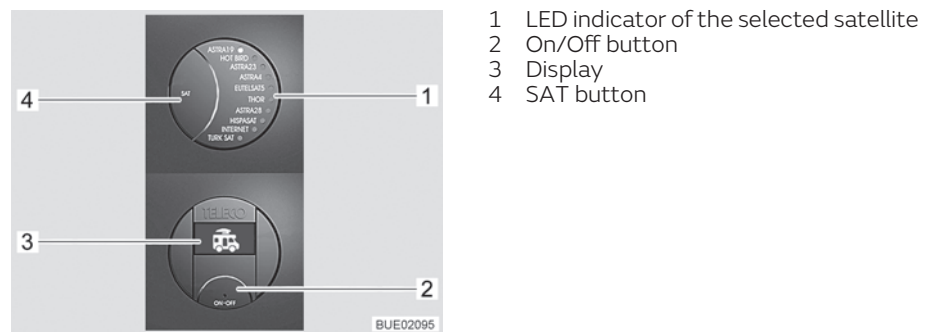

Fig. 26 Operating panel (TeleSat)
- Press the On/Off button (Fig. 26,2). The LED indicator of the selected satellite (Fig. 26,1) and the background lighting of the buttons are lit. The symbol of the vehicle with retracted antenna appears on the display (Fig. 26,3).
- Press the On/Off button (Fig. 26,2) again. The system has been switched on. If the antenna had been retracted, it will now extend to operating position. If the LED of the desired satellite (Fig. 26,1) is already flashing, wait a few seconds. The antenna automatically aligns with this satellite (the last satellite position is saved after switching off). When the unit has found the satellite, the LED (Fig. 26,1) is lit permanently and "SAT OK" is shown on the display (Fig. 26,3).
- Press the SAT button (Fig. 26,4) repeatedly until the LED (Fig. 26,1) indicates the desired satellite. The antenna automatically aligns with this satellite.
- When the unit has found the satellite, the LED (Fig. 26,1) is lit permanently and "SAT OK" is shown on the display (Fig. 26,3).
- Press the On/Off button (Fig. 26,2). The LED indicator of the selected satellite (Fig. 26,1) and the background lighting of the buttons are lit. The currently selected satellite is shown on the display (Fig. 26,3).
- Press the On/Off button (Fig. 26,2) again. The antenna retracts. When the antenna has been fully retracted, the symbol of the vehicle with retracted antenna is shown on the display. The system changes to the standby mode after a few seconds.